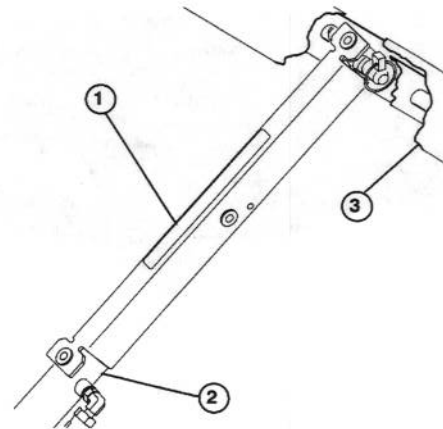

Figure 21
3. Push the bed support onto the cylinder rod, making sure support end tabs rest on the end of the cylinder barrel and on cylinder rod end (Fig. 21).